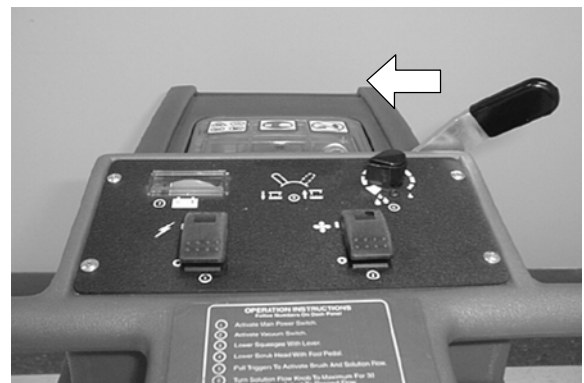

FIG. 10
1. Lower squeegee by moving the squeegee lift lever to the left (Figure 10).